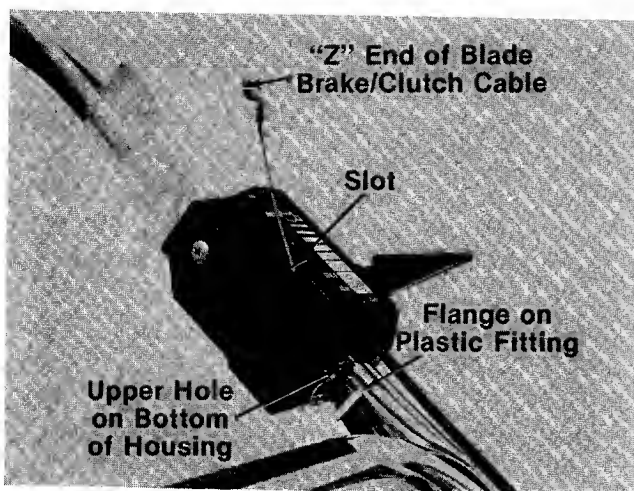

FIGURE 4.
5. Route the blade brake/clutch cable under the lower handle. Place end of cable into the upper hole on the bottom of the control housing, and through the slot on the side of the housing as shown. The angle of the flange on the plastic fitting must be positioned downward as shown in figure 4. Be careful not to bend or kink the cable.